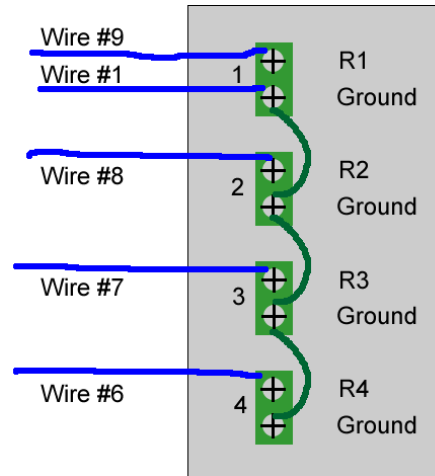

Fig 2. Wire connections for multi-position MX Series II Modules. Wire colors will vary.
- Using the provided jumper wires, jumper the ground terminals of event relays 2 (R2), 3 (R3), and 4 (R4), as shown in figure 2.
(3) Connect the wires of the interface cable to the instrument with 4-line BCD control as shown in figure 2.